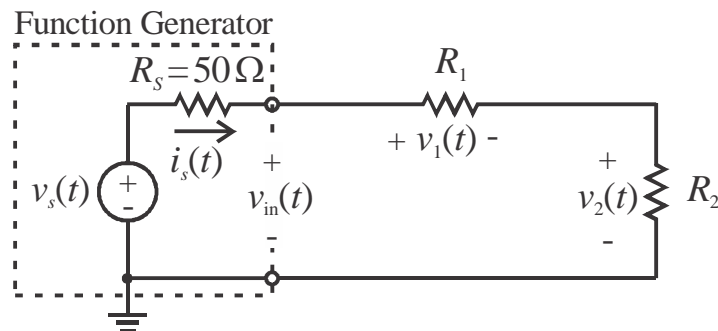

Figure 1 Test Circuit
- 1) For the test circuit shown in Figure 1, calculate how the source voltage $v_s(t)$ should divide, i.e., calculate $v_{in}(t)$, $v_1(t)$, and $v_2(t)$ in terms of $v_s(t)$, given $R_1 = 3.3 \text{ k}\Omega$ and $R_2 = 6.8 \text{ k}\Omega$. **Note:** Ohm's Law, Kirchhoff's Current Law (KCL), and Voltage Law (KVL) apply to time-varying signals. Therefore, the voltage division rule still applies.
- 3) Connect circuit shown in Figure 1. Using the DMM on the **AC voltmeter** setting, measure and record $V_{in,RMS,DMM}$, $V_{1,RMS,DMM}$, and $V_{2,RMS,DMM}$. Using the DMM on the **DC voltmeter** setting, measure and record $V_{in,DC,DMM}$, $V_{1,DC,DMM}$, and $V_{2,DC,DMM}$.